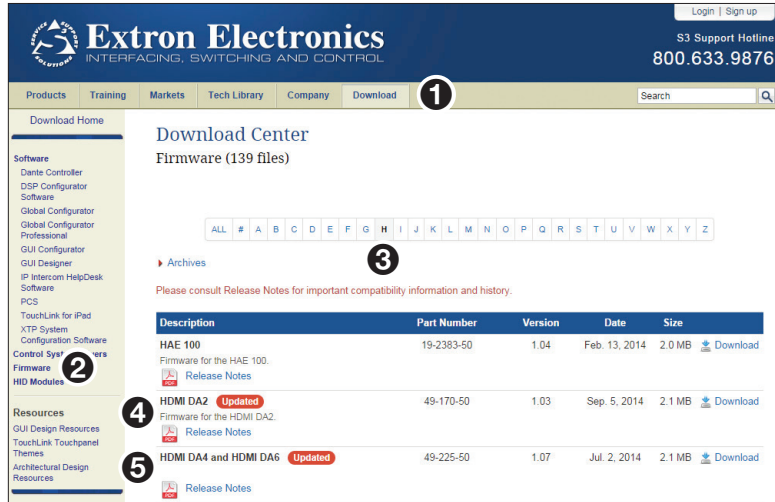

Figure 9. Firmware Link on the Download Tab
1. At www.extron.com, click the **Download** link at the top of the page (figure 9, ❶), then click the **Firmware** link (❷) on the left sidebar menu.